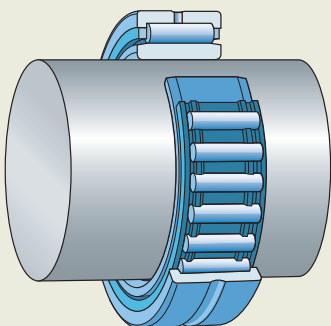

Fig. 15
- are an excellent choice for compact bearing arrangements if the shaft can be hardened and ground (fig. 15)